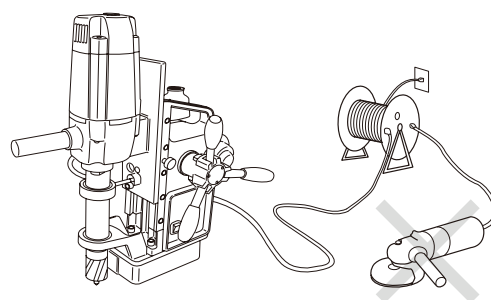

Fig. 7
- Do not use an extension cord that is too thin. Do not use an extension cord that is too long. Do not use an extension cord that is wound on a drum. Do not share an extension cord with other motor-driven tools. These uses can cause voltage to drop and can reduce the holding power of the magnet, causing the machine to move during operation. This can decrease performance and may cause damage to the machine. (Fig.7)